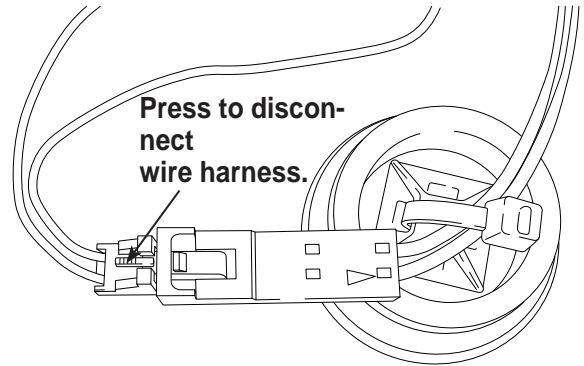

Figure 12
6. Disconnect the wire harness at the connector by pressing on the center tab. Pull the connectors apart. See Figure 12.